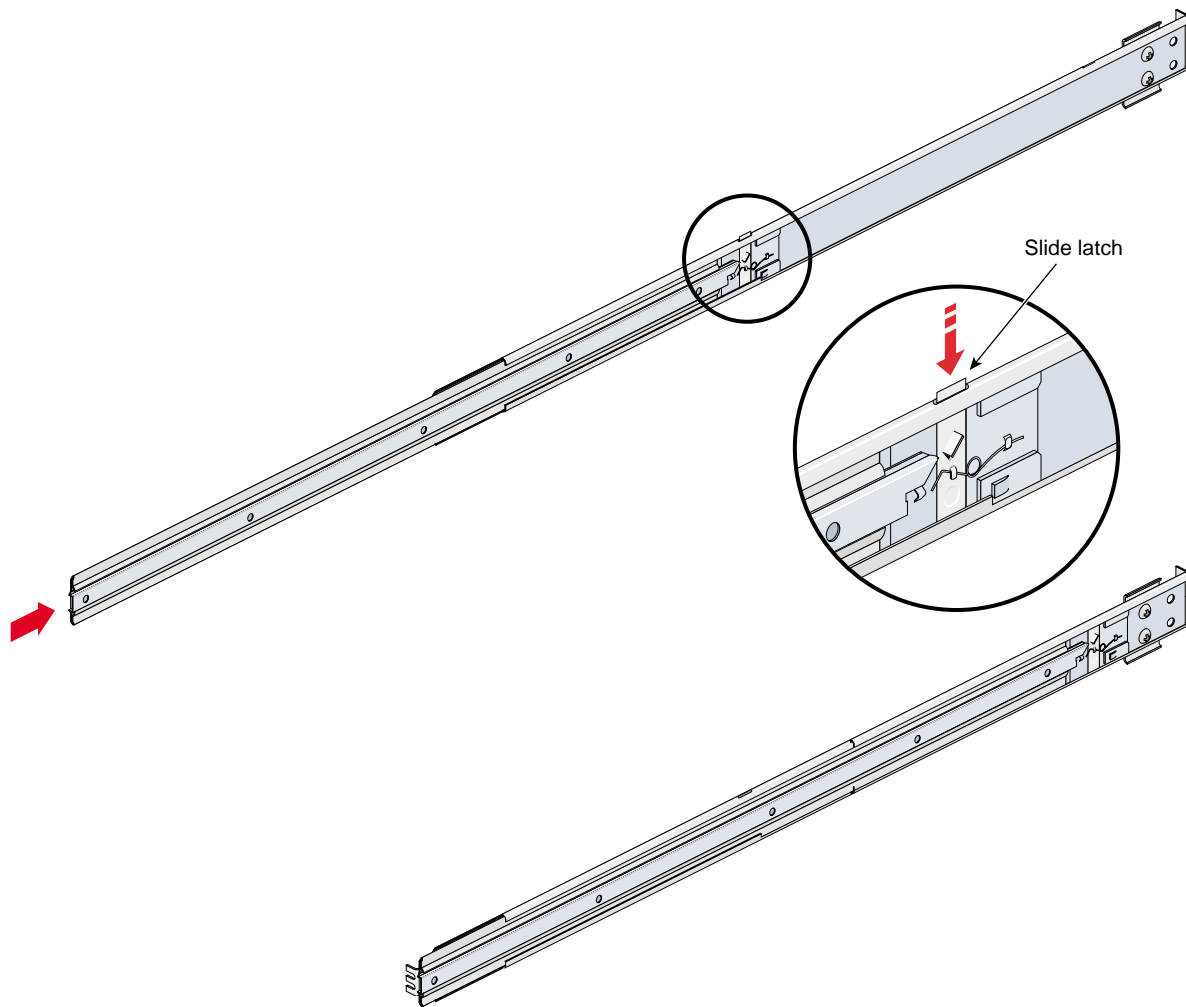

Figure C-16 Releasing the Slide Latches
7. To slide the slide rails back into the rack, push down on the slide latches as shown in Figure C-16.